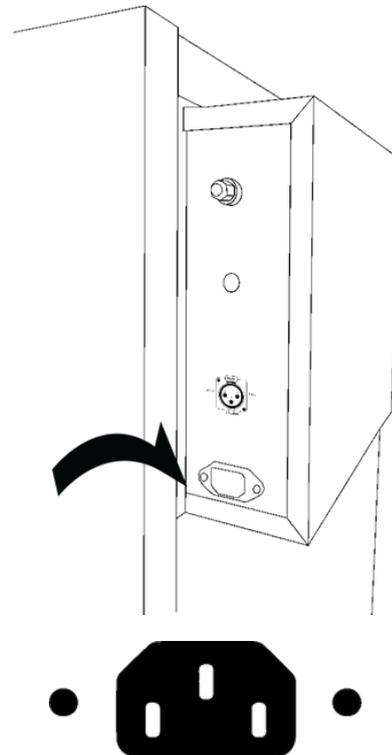

Fig 2. 10 amp male IEC socket
- On the incubator itself is a 10 amp male IEC socket. (Fig 2)